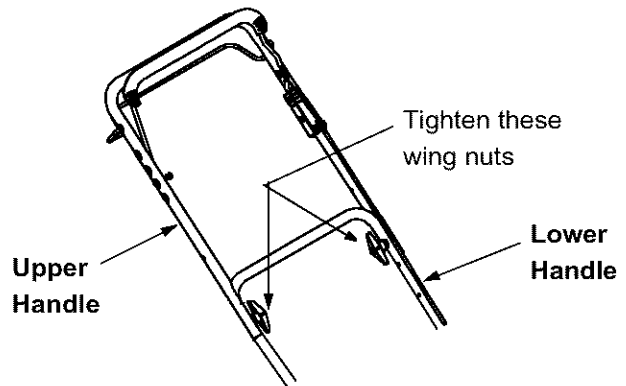

Figure 3
For shipping purposes, the grass bag was placed on top of the unit. Remove it from the unit and set it out of the way. See Figure 3.
- Raise the lower handle, as shown in Figure 3, until it snaps into place.
- Raise the upper handle as shown in Figure 3.
- Tighten the two wing nuts which are already on the handle. See Figure 3.